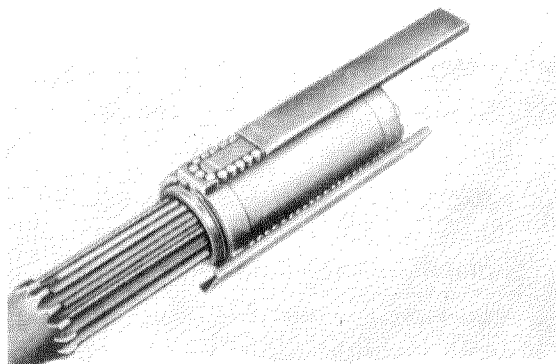

Fig. 35 — 4/59
142. Put the circlip (4) and the washer (5) in the yoke end side of the outer yoke (2) (see Fig. 35 — 4/54).